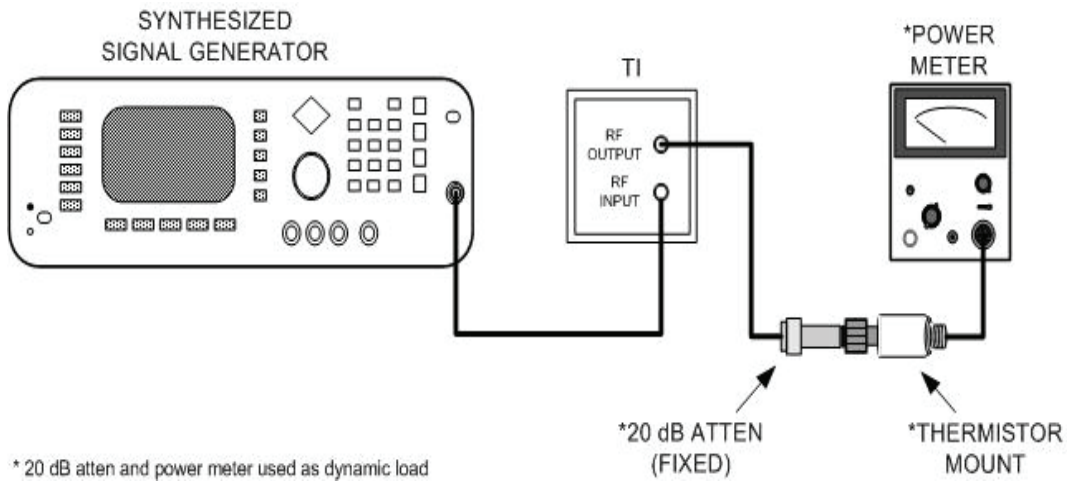
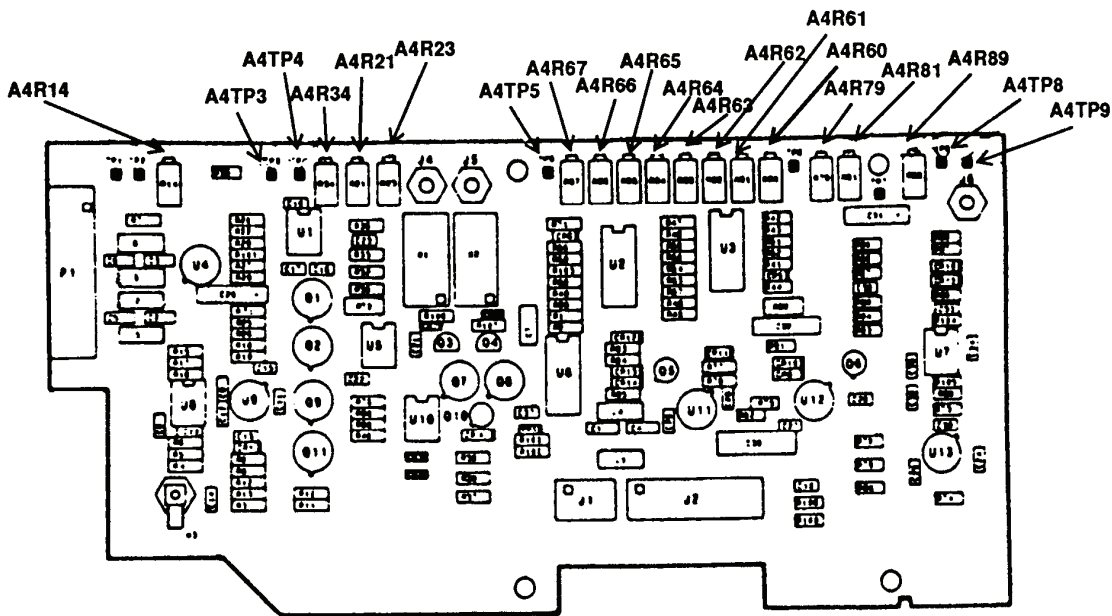

Figure 4. Compensation zero adjustments - equipment setup.
Figure 5. Signal conditioning board - adjustments location.
(1) Connect thermistor mount to point A of figure 4.
- (4) Center A4R60 through A4R67 (fig. 5).
- (5) Connect multimeter negative lead to A4TP4 (fig. 5) and positive lead to A4TP5 (fig. 5).
- (6) Adjust A4R67 (fig. 5) for a multimeter indication between -0.001 and +0.001 V dc.
- (7) Connect multimeter positive lead to A4TP3 (fig. 5).
(8) Center A4R14, A4R23, and A4R34 (fig. 5).
(9) Adjust synthesized signal generator level output controls for a multimeter indication between -0.001 and +0.001 V dc.
(10) Adjust A4R81 (fig. 5) for a 0.0 dBm indication with a blinking minus sign on TI display (R).
(11) Adjust synthesized signal generator level output controls for multimeter indication between 1.197 and 1.203 V dc.
(12) Adjust A4R79 (fig. 5) for a TI display indication between 19.9 and 20.1 dBm (R).
(13) Adjust synthesized signal generator level output controls for a TI display indication of 20.0 dBm.
(14) Connect multimeter negative lead to A4TP9 (fig. 5) and positive lead to A4TP8 (fig. 5).
(15) Adjust A4R89 (fig. 5) for a multimeter indication between -0.305 and 0.325 V dc.
(16) Turn synthesized signal generator RF output off.
(17) Connect multimeter (ac mode) negative lead to A4TP4 (fig. 5) and positive lead to A4TP3 (fig. 5).
(18) Adjust A4R34 (fig. 5) fully cw.
(19) Adjust A4R14 (fig. 5) for a maximum indication on digital voltmeter (typically 70 mV rms).
(20) Turn synthesized signal generator RF output on.
(21) Disconnect 20 dB attenuator (fixed) from figure 4 equipment setup.
(22) Connect TI **RF OUTPUT** to power meter (fig. 4).
(23) Adjust synthesized signal generator level output controls for a 0 dBm indication on power meter.
(24) Adjust A4R21 (fig. 5) for a TI 0.0 dBm indication on TI display (R).
(25) Adjust synthesized signal generator level output controls for a -10 dBm indication on power meter.
(26) Adjust A4R34 (fig. 5) for a -10.0 dBm indication on TI display (R).
(27) Install 20 dB attenuator (fixed) between power meter and TI **RF OUTPUT** (fig. 4).
(28) Determine 20 dB attenuator (fixed) correction factor at 11 GHz from test report. Record correction factor.
0.00 dBm	(29) above	-10.1
(30) Adjust synthesized signal generator level output controls to value recorded in (29) above on power meter.
(31) Adjust A4R23 (fig. 5) for a +20.0 dBm indication on TI display (R).
A4R23 (fig. 5) will be adjusted for best compromise between +10 and +20, indications on TI display.